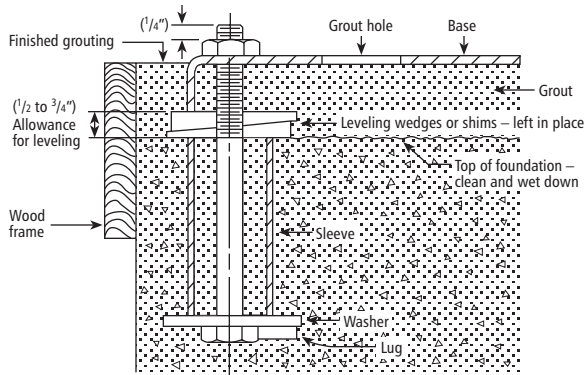

Figure 1
- It is recommended that the baseplate be grouted to a foundation with solid footing. Refer to Figure 1.